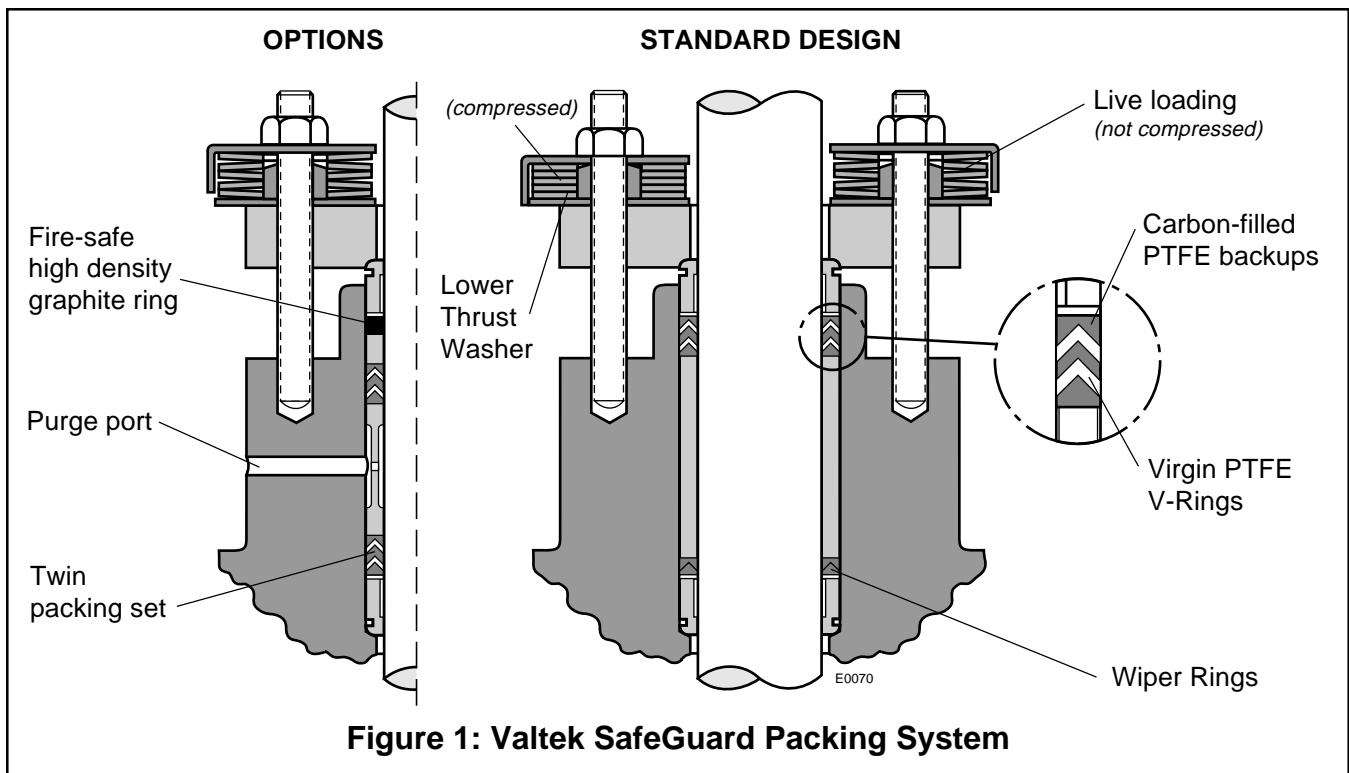

Figure 1: Valtek SafeGuard Packing System
Be certain the packing bore and plug stem have been properly re-worked and installed in the valve according to the valve's installation, operation, maintenance instructions. To install the Valtek SafeGuard packing, refer to Figure 1 and proceed as follows.
6. Next, the lower thrust washer, which is a round stamping, is placed over the bolt and onto the gland flange. The internal sleeve is then put over the bolt so that the 30 degree angle is on top. The first disc spring is next placed over the internal sleeve so the inside diameter of the spring makes contact with the lower thrust washer. The other four springs should be placed alternately so that the last disc spring's outside diameter will make contact with the upper thrust washer. (See Figure 1)